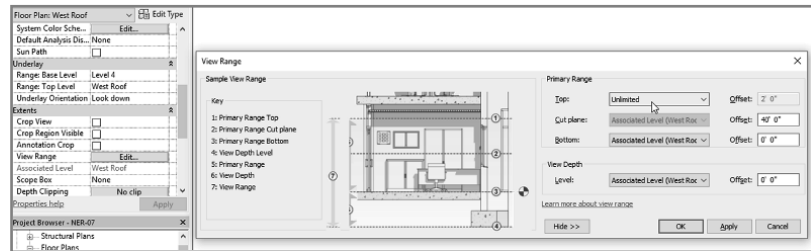

FIGURE 7.43: Setting the view range
4. Set the Cut Plane Offset to 40' 0" (12000 mm), as shown in Figure 7.43.
5. Change the rest of the settings to reflect Figure 7.43.